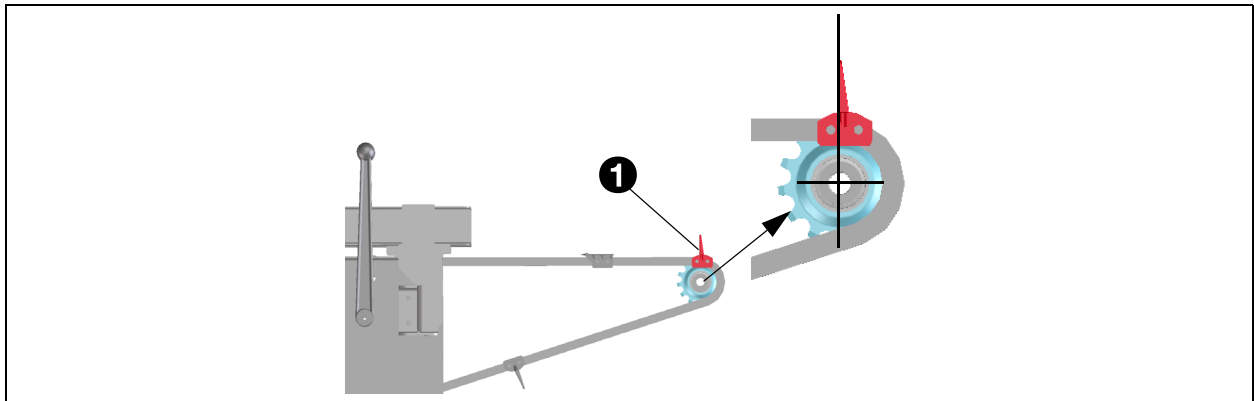

Fig. 160 - Transfer-point from pin conveyor to packing conveyor
Problems with the transfer of the packaging material can be solved by the adjustment of the transfer-point between the pin conveyor and the packing conveyor. See fig. 160.
Turn the packing conveyor by hand until a pusher (1) is centred vertically above the rear gear wheel. See fig. 160.